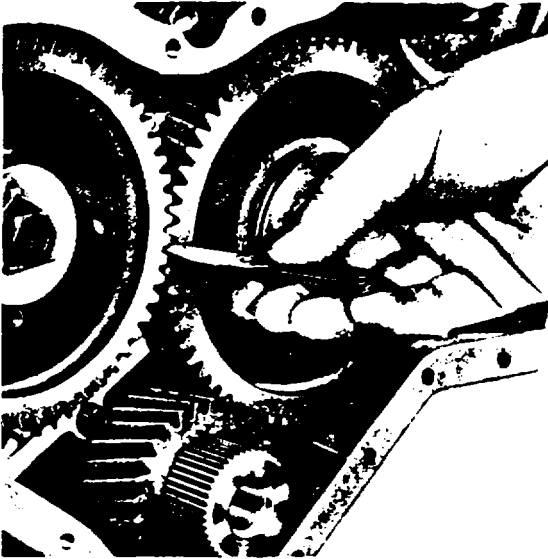

Fig. K.2.
2. Check the timing gear backlash as shown in Fig. K.2 using a clock gauge or feeler gauges. The backlash should be 0.003 in (0,08 mm) minimum.